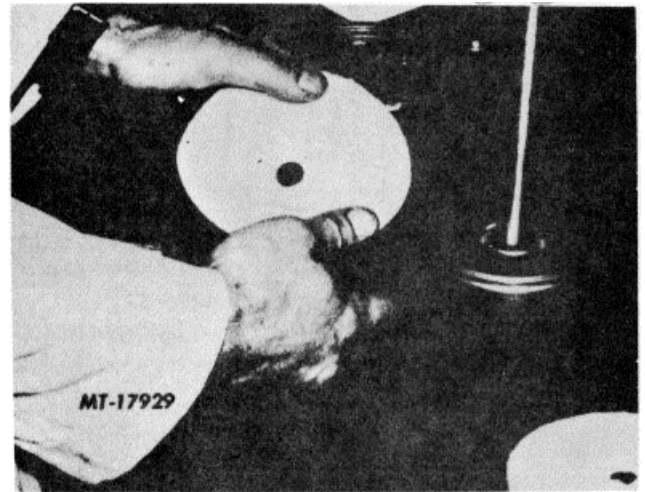

Fig. 10 Installing Felt Cloth in Cartridge
1. Insert one of the perforated plates into the cartridge, felt cloth up, and tap it firmly to the bottom. Felt always faces desiccant material (see Fig. 10).